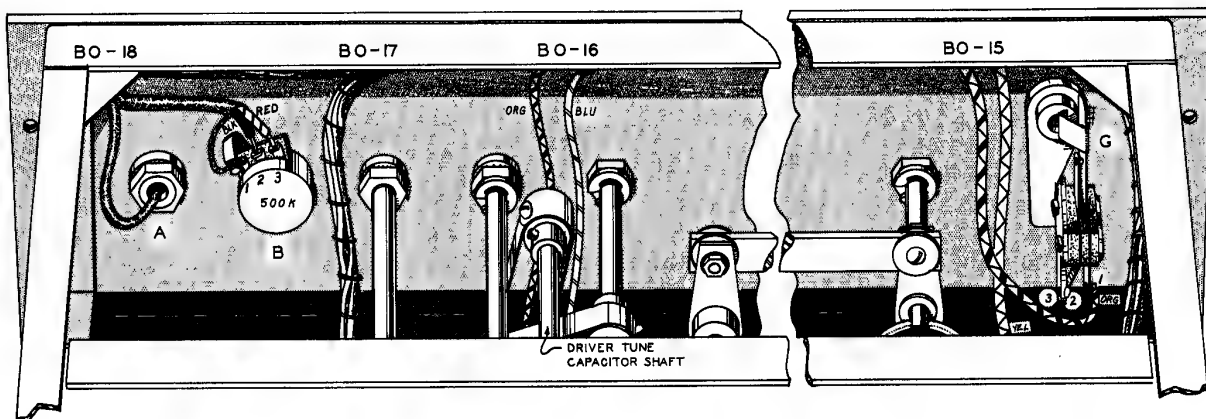

Figure 38
- (✓) Referring to Figure 38, mount the .5 megohm potentiometer with the 9/16" long bushing at the "GAIN" location, using a control solder lug on the rear of the front apron and a 3/8" flat washer and nut on the front of the panel. Orient the lugs and solder lug as shown, lugs to the left and the solder lug under lug 1 of the control. Do not secure tightly as yet.
- (X) Mount the mike connector at the "MIKE" location on the panel, placing a 3/8" lockwasher under the nut on the rear side of the chassis front apron. Secure lightly.
- (X) Rotate the bandswitch through its entire travel and check to make sure the linkage clears all electrical connections on the back of the panel, especially those on the plate switch. Bend the switch lugs or reposition the linkage, if necessary.